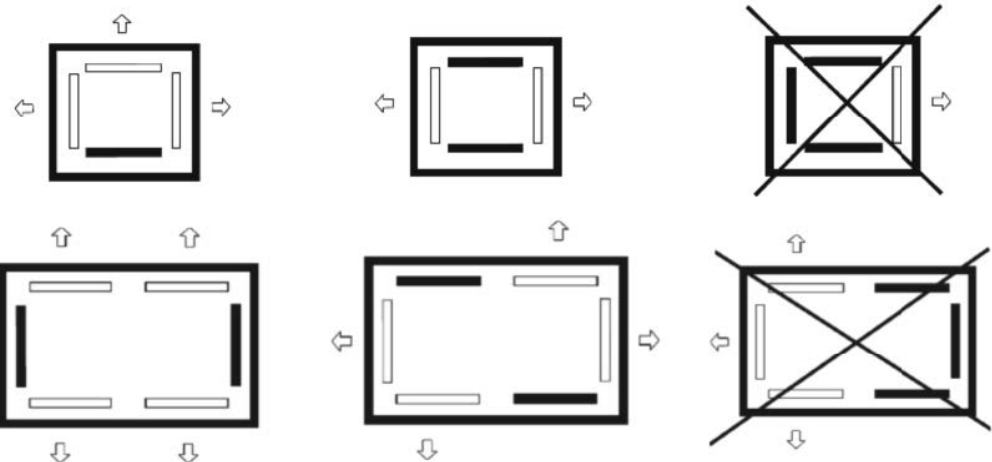

Figure 9: Blowing air outlets
- the unit must be installed in the room so that it allows free air circulation in the unit. The unit has four (sizes 20-80) or six (sizes 100-160) blowing outlets that contain air deflectors for directing the blowing air or for closing some of the outlets, if necessary. The maximum number of closed blowing outlets is shown in *Figure 9: Blowing air outlets*.